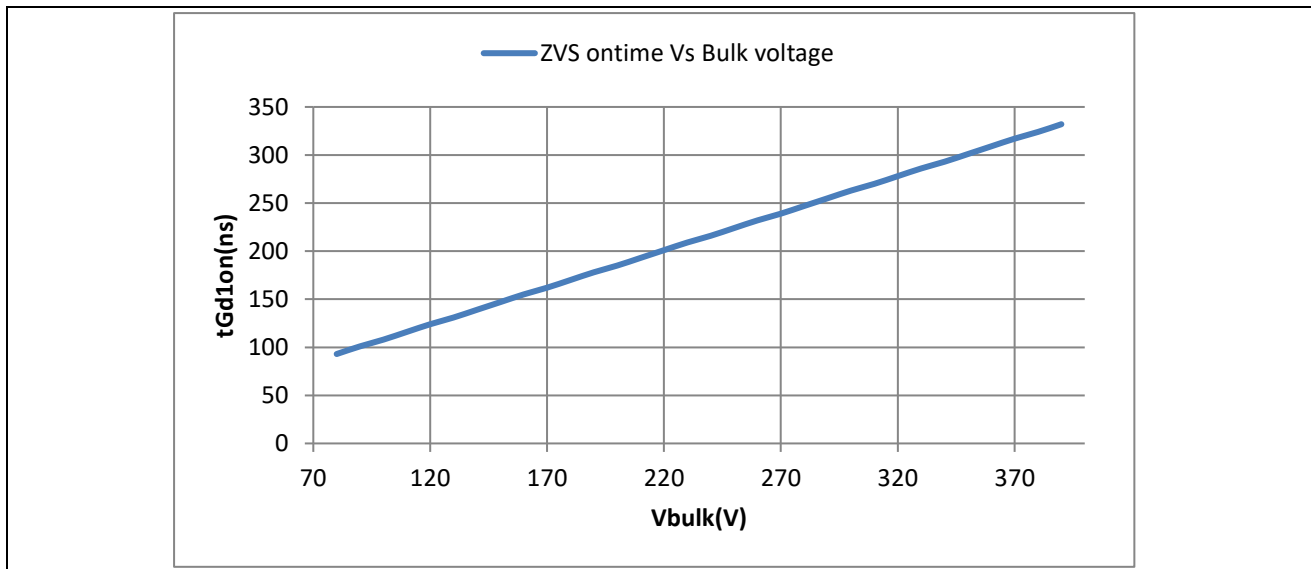

Figure 30  $V_{Bulk}$  depended adaptive ZVS pulse length  $t_{GD1on}$
The parameter BULK\_VOLTAGE(V) is calculated based on the measured current at HV pin  $I_{HV}$  via the external resistor  $R_{HV} = 102k\Omega$ . Figure 30 shows the default configured relationship between the controlled ZVS pulse length  $t_{GD1on}$  and  $V_{Bulk}$  based on default  $K_{zvsfactor}=3200$ .